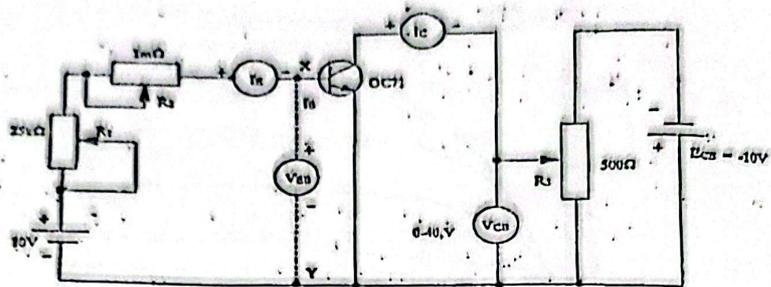

Fig. 4 Circuit diagram for investigating static characteristics of an NPN transistor in CE
- (i) Connect the circuit of Fig. 4, and turn  $R_1$  and  $R_2$  appropriately to set  $I_B = 0 \mu\text{A}$  initially.
- (iv) Using the same circuit connection of Fig. 4, set and keep  $V_{CE} = 2V$  initially.
- (vii) Disconnect the  $I_C$  measuring meter from the circuit of Fig. 4, and link up the gap by using a connection lead. Connect a 0-5, V dc voltmeter between terminals X and Y to measure ( $V_{BE}$ ).
- (d) Explain briefly what change(s) you would expect in the circuit of Fig. 4 if a PNP transistor were used?